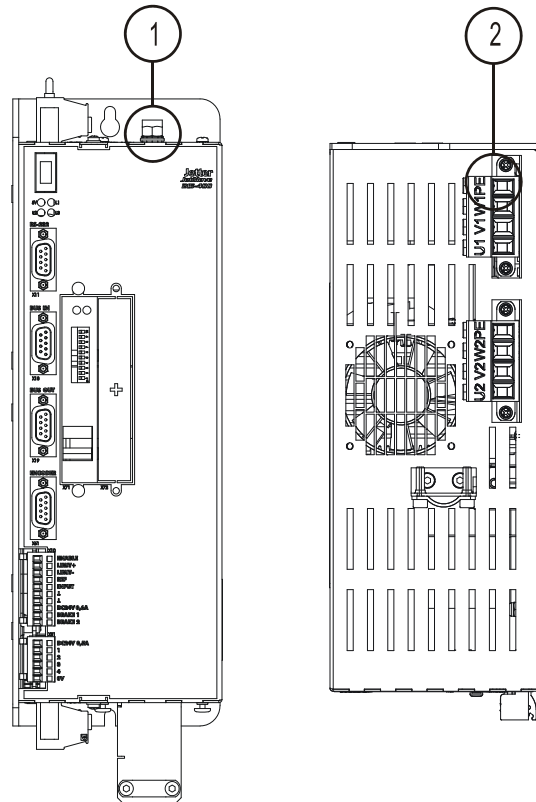

Fig. 1: Double earthing
- Connect the protective earth bus to the PE bolt (1) located on the top side of the rack as well as to the PE terminal X1 (2) (please refer to Fig. 1).
- Connect the earth to the cover. For this please refer to Fig. 1 on Page 15.